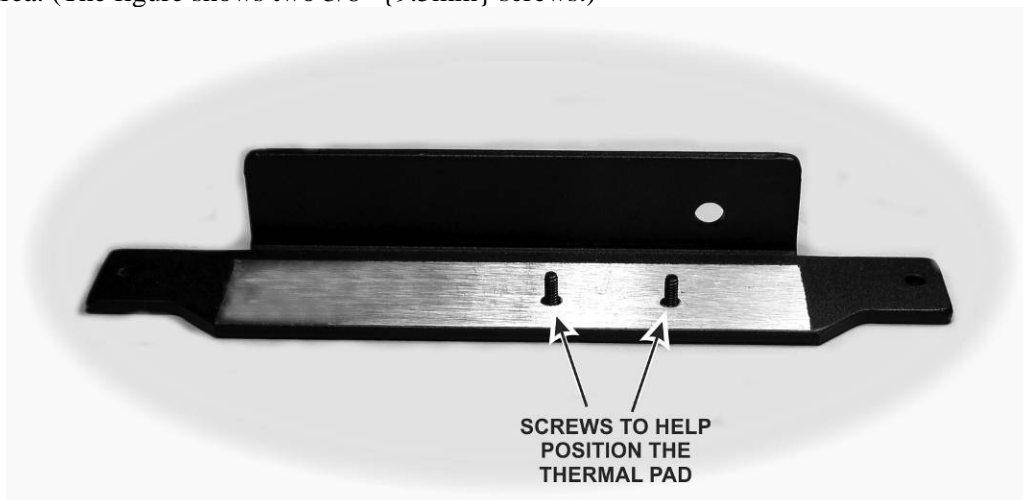

Figure 34. Heat Sink Ready for Thermal Pad.
□ Lay the heat sink down on your work table as shown Figure 34 with the two 4-40 flat head screws in the holes as shown. The screw size is not important. They are there only to help you align the thermal pad over the bare metal area. (The figure shows two 3/8" {9.5mm} screws.)